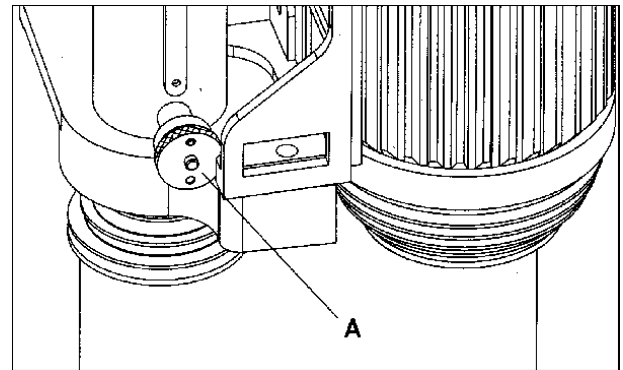

FIGURE 28
Open rear cabinet door and rotate lock knob (A), shown in Figure 28, until the hole on the knob engages the pin. Turn pulley until the lock pin engages the spindle.